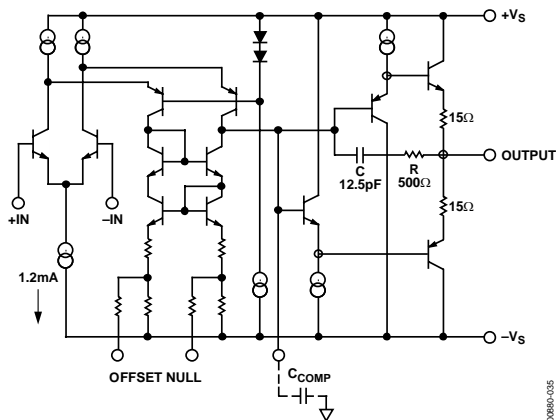

Figure 35. Simplified Schematic
The AD829 is fabricated on the Analog Devices, Inc., proprietary complementary bipolar (CB) process, which provides PNP and NPN transistors with similar f_{TS} of 600 MHz. As shown in Figure 35, the AD829 input stage consists of an NPN differential pair in which each transistor operates at a 600 μ A collector current. This gives the input devices a high transconductance, which in turn gives the AD829 a low noise figure of 2 nV/ $\sqrt{\text{Hz}}$ at 1 kHz.
An RC network in the output stage (see Figure 35) completely removes the effect of capacitive loading when the amplifier compensates for closed-loop gains of 10 or higher. At low frequencies, and with low capacitive loads, the gain from the compensation node to the output is very close to unity. In this case, C is bootstrapped and does not contribute to the compensation capacitance of the device. As the capacitive load increases, a pole forms with the output impedance of the output stage, which reduces the gain, and subsequently, C is incompletely bootstrapped. Therefore, some fraction of C contributes to the compensation capacitance, and the unity-gain bandwidth falls. As the load capacitance is further increased, the bandwidth continues to fall, and the amplifier remains stable.